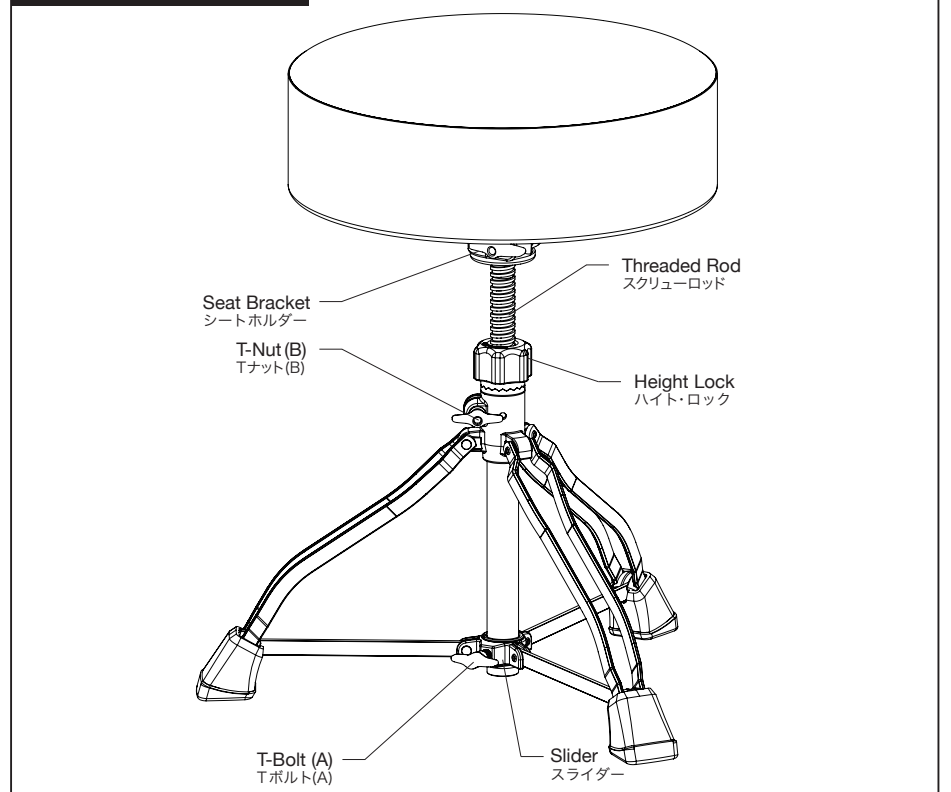

Fig.1 (図1)
### Assembly (Fig. 1, 2A, 2B)
4. Now tighten the T-nut (B) securely.
Before you sit down, make sure the Height Lock is placed on the nylon bushing as shown in fig.1. If you loosen the T-nut (B) or sit on the seat with Height Lock in a floating position, the seat may fall suddenly and cause injury.
### 組み立て方法 (図1, 2A, 2B)